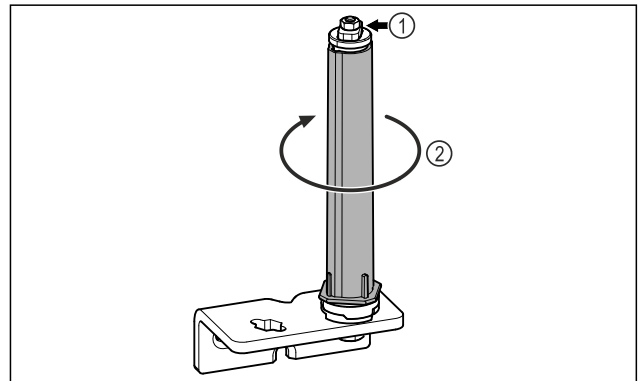

Fig. 29
- ▶ Do not dismantle the door locking system Fig. 29 (1).
- ▶ Turn the locking system Fig. 29 (2) until it clicks.